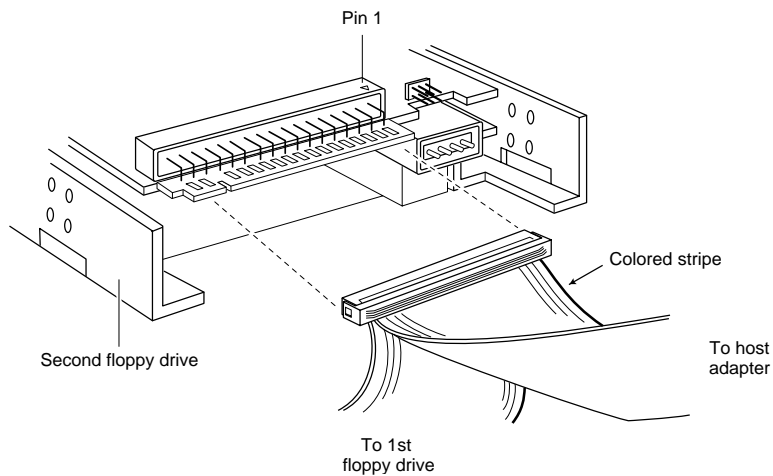

Figure 3-13. Connecting a Second Floppy Drive
- 3 To connect a second floppy drive, plug the middle connector of the floppy ribbon cable to the connector on the second floppy drive (B), as shown in Figure 3-13.